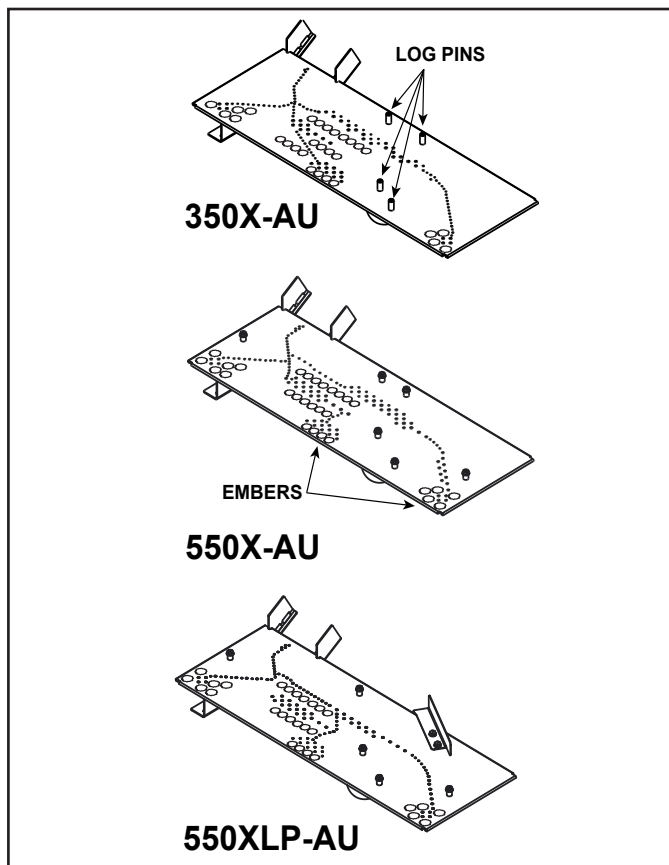
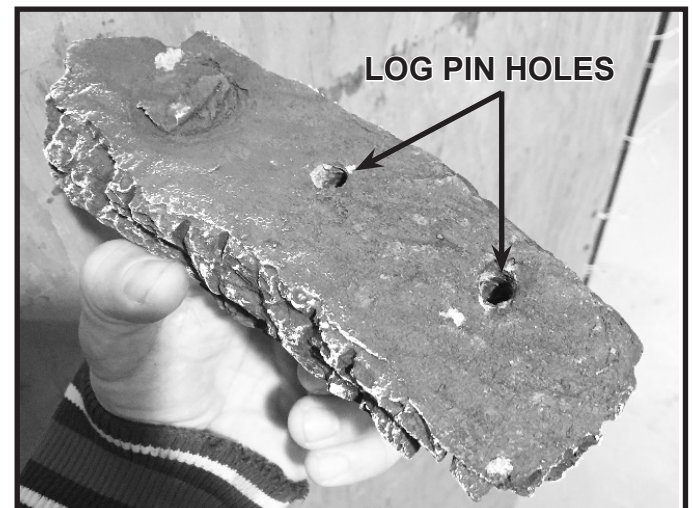

Figure 1. Log Pin and Glowing Ember Locations
Figure 2. Example of Log Pin Holes
The overall size and placement of the burner assembly within the firebox is very similar between all sizes. However, each burner top has different burner ports and log pin configurations. See Figure 1 for log pin locations.
- The rear left log, rear right log and small burner log utilize holes in the bottom side of the logs that correspond to the log pins on the burner. Reference Figure 1 and Figure 2.
3. Remove the Glowing Embers® from packaging and install the ember material as shown in Figure 1. Care should be taken to avoid placing ember material directly over ports and to avoid using excessive amounts of ember material.